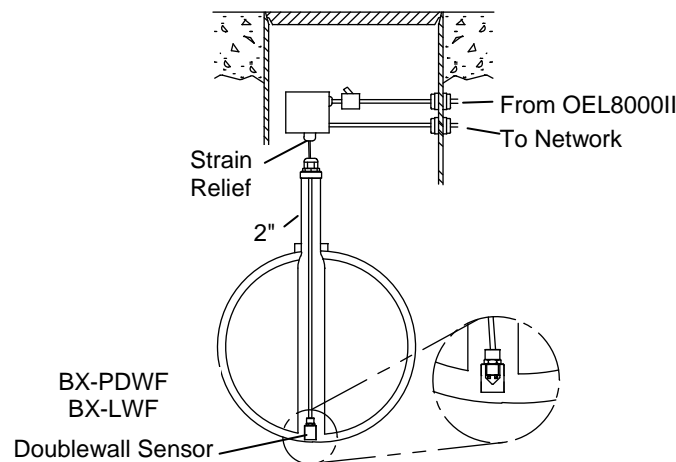

Fig. 2-8: BX-PDWS Installation
1. Lower the sensor into the monitoring tube it until it reaches the bottom (see Figure 2-8).